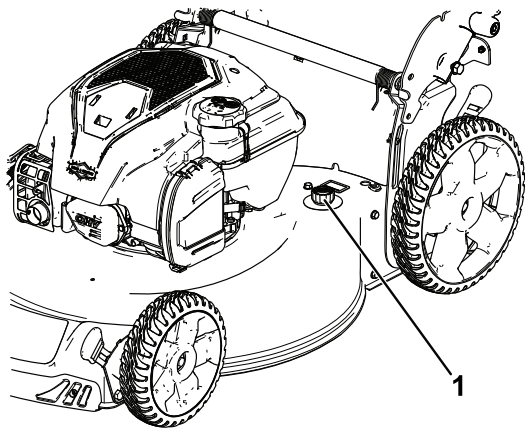

Figure 18
- Attach a garden hose that is connected to a water supply to the washout port (Figure 18).